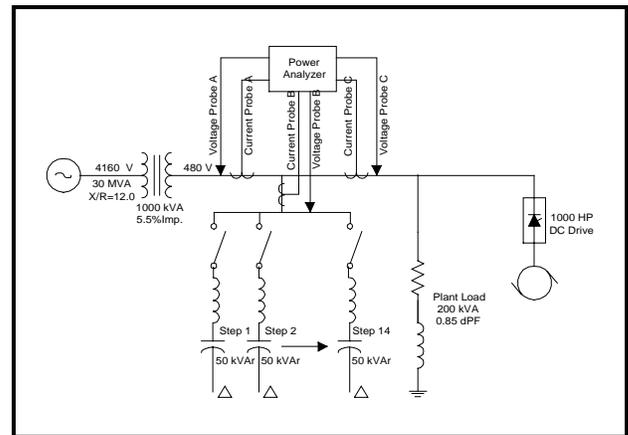

Figure 7 - Meter Setup for Filter Performance Measurement
Figure 7 shows the meter setup for measuring the harmonic filters performance. The diagram shows the ideal situation where one current transformer (CT) is used to measure the load, one for the filter, and one CT for the transformer. Space restraints and load connection points may make this connection more difficult. It is important to use a meter that will sample all of the transducer channels simultaneously (or near simultaneously) and that all the probes be connected to a common phase so that a correlation between the three currents may be made. The values in Table 1 were
taken when the Sample System, shown in Figure 7, had the drive operating at 500 kVA and 500 kVAr of harmonic filter was connected.